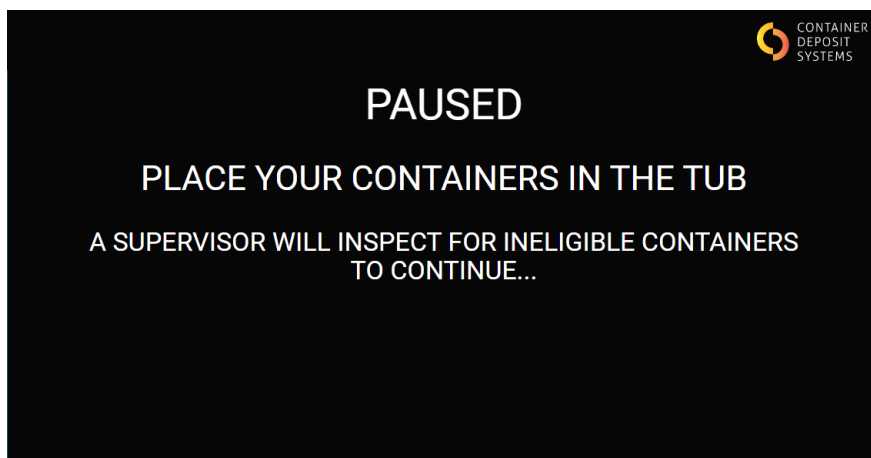

Figure 15. Paused after 250 containers
- The ART will pause if the number of containers reach 250. The screen will display the notification shown in Figure 15. Paused after 250 containers